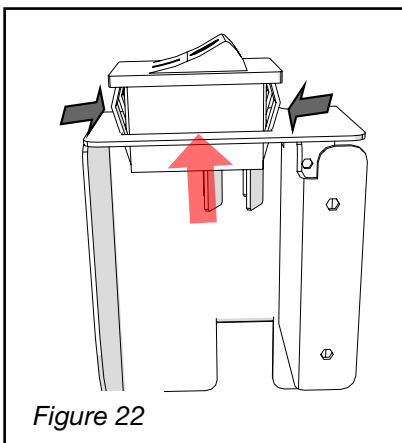

Figure 22
4. Release the power switch from the bracket. (Figure 22)